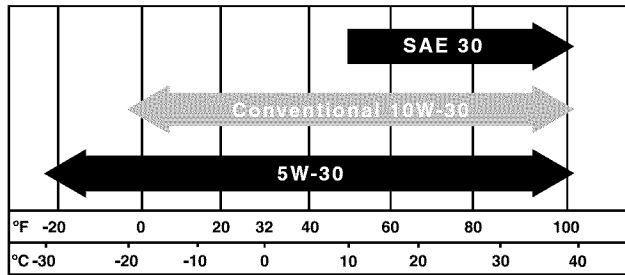

Figure 30 – Recommended Oil
1. Only use the engine oil specified in *Figure 30*.
6. Select the proper engine oil as specified in *Figure 30*.